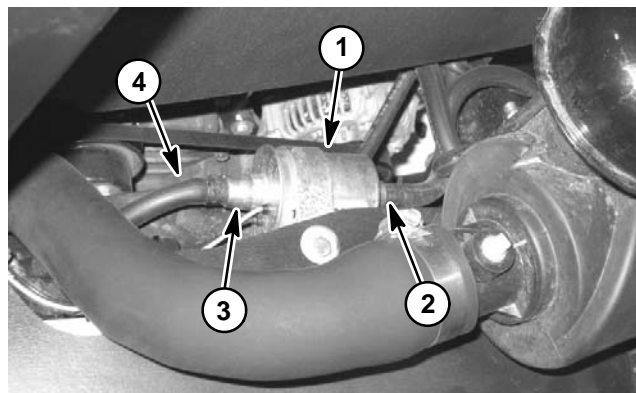

Figure 65
The fuel pump on Greensmaster 3400 machines is secured to the radiator assembly with an r-clamp (Fig. 65). The Toro Electronic Controller (TEC) energizes the fuel pump when the ignition switch is in either the RUN or START position.
3. Disconnect machine fuel supply hose from the fuel pump outlet (Fig. 65).